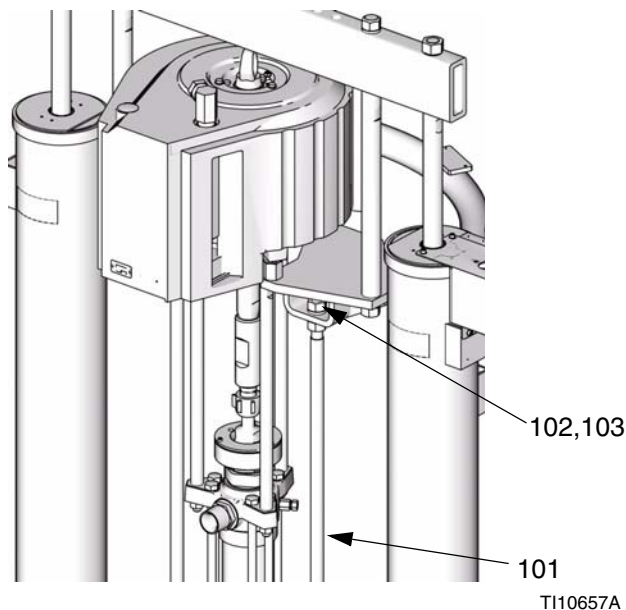

FIG. 22
- Remove nuts and washers (102, 103) from top of platen lift rods (101). See FIG. 22.
Do not remove or adjust the nuts (102) below the brackets. See FIG. 22. If the nuts are adjusted the pump will not fully engage with the platen or the smaller distance will put stress on the motor, tie rods, and displacement pump.
4. Tighten nuts (103) and washers (102) to top of platen lift rods (101). See FIG. 22.